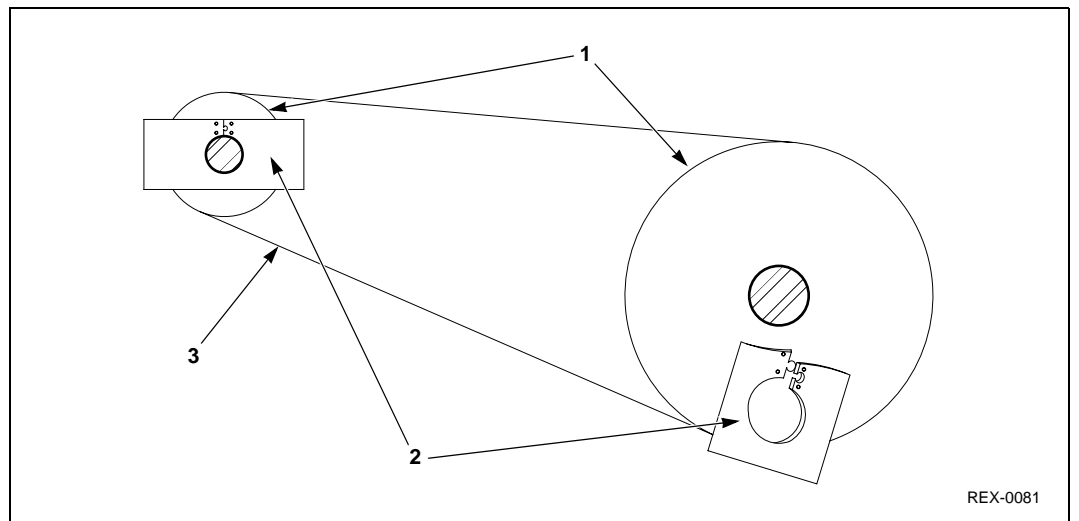

Figure 4-56: *Installing Cork Seals on Shafts*
5. Install neoprene impregnated cork shaft seal on shafts by twisting seal open as shown in Figure 4-56. Split in seal should be above shaft.